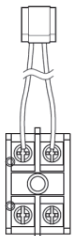

Fig.1
- ① Find backup heater terminal block Kit(Fig. 1).
- ② Assemble the terminal block kit using screw on unit.